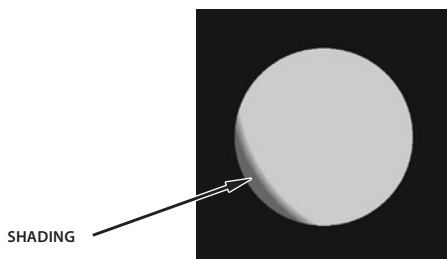

Figure 3-3. Shading
(1) Shading. If shading is present, you will not see a fully circular image (see Figure 3-3). Shading is very dark and you cannot see an image through it. Shading always begins on the edge and migrates inward eventually across the entire image area. Shading is a high contrast area with a distinct line of demarcation. Return the MUNVM to the maintainer.